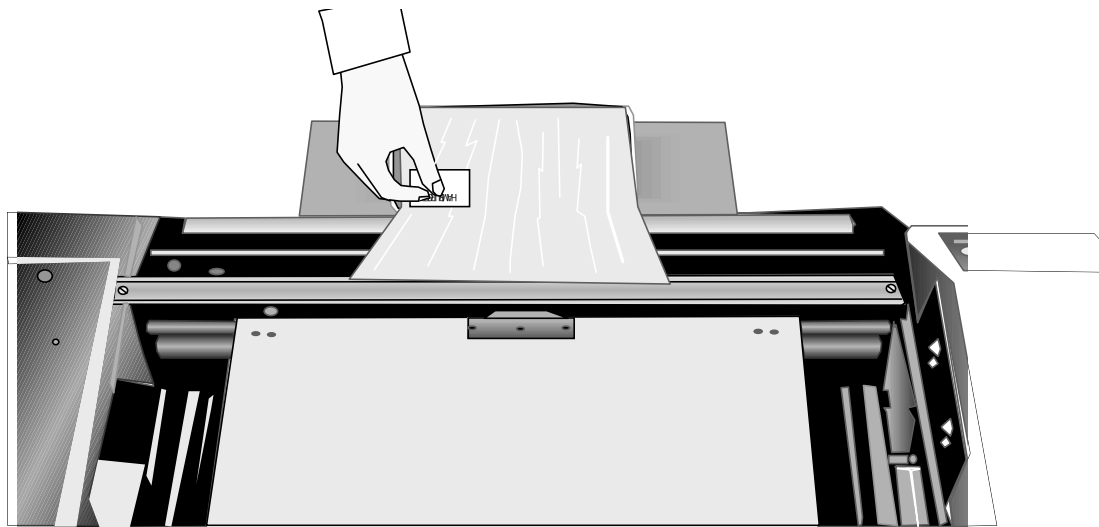

Figure 7-2: Applying Label to package
10. Apply the label to the package. (Figure 7-2)